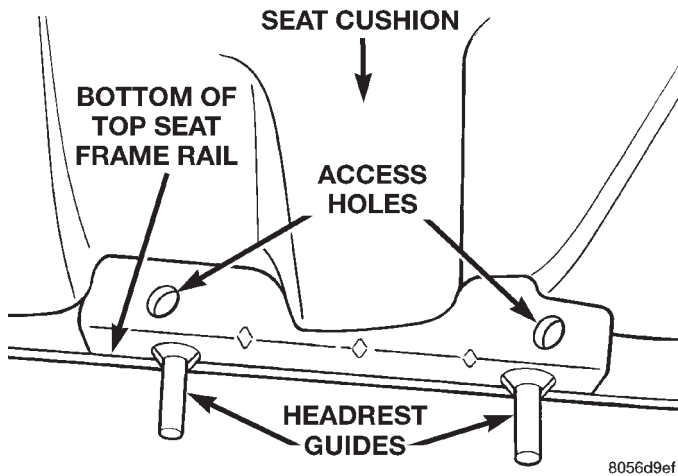

Fig. 10 Headrest Guides
- (14) Remove headrest guides (Fig. 10).